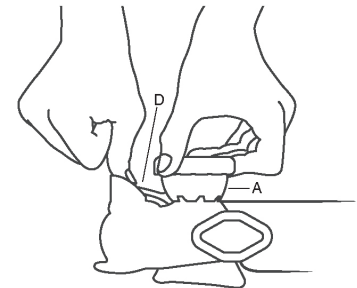

Figure 12
To release the HANDWHEEL Style coupler from the hitch-ball, press down on the latch (D) while rotating the handwheel (A) counter-clockwise. (Figure 12) Continue turning the handwheel, about ten full revolutions, until it backs off against the roll pin. Next, lift the coupler completely off the hitch-ball using the tongue jack, then carefully lower the AT tongue to the ground.